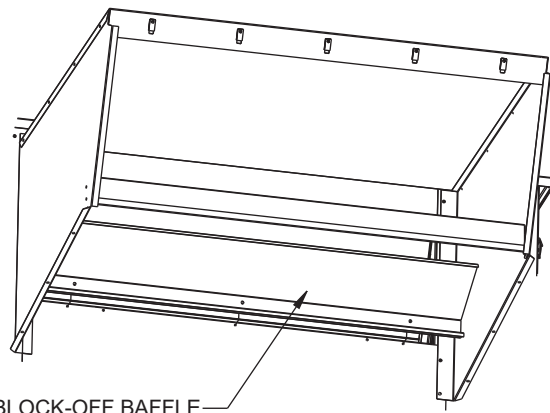

Fig. 35 — Mounting Block-Off Baffle to the Unit
9. Locate and mount block-off baffle using 3 screws. See Fig. 35.